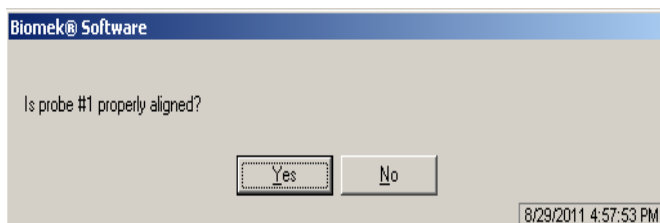

Figure 7. Determining if the probe is properly aligned.
- 15 The next prompt window will open as shown in Figure 7.